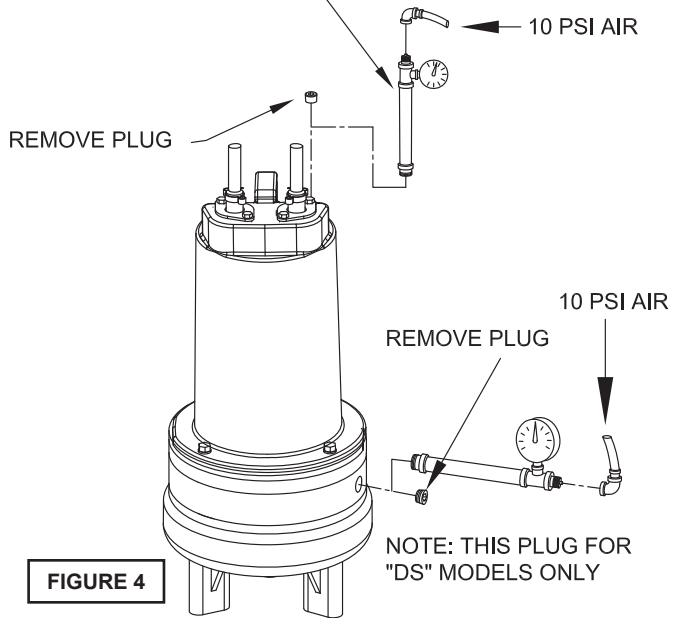

FIGURE 4
To clean out volute (1) or replace impeller (33), disconnect power, remove hex bolts (26), and lockwasher (12), vertically lift motor and seal plate assembly from volute (1) see Figure 4. Clean out body if necessary. Clean and examine impeller (33), for pitting or wear and replace if required, inspect gasket (36) and replace if cut or damaged. If the impeller (33) needs replacing, place a flat screwdriver in the slot of the end of the shaft to hold the shaft stationary while unscrewing the jam nut (66) and impeller (33).